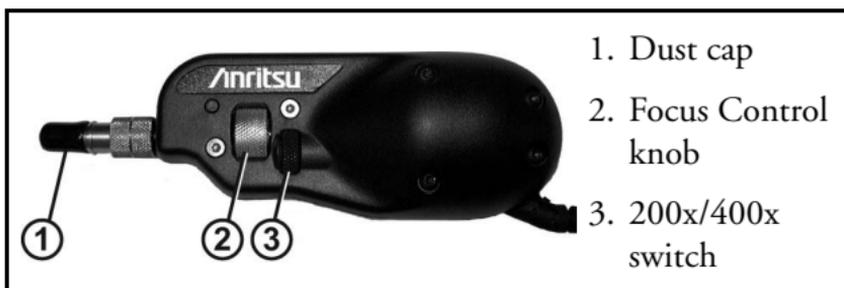
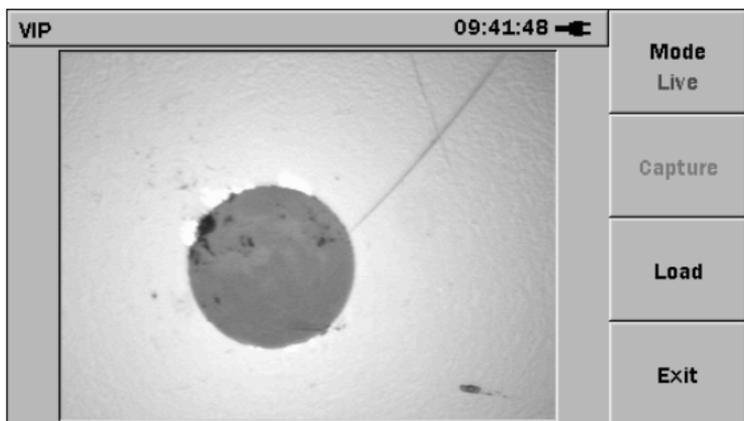

Figure 5-2: Video Inspection Probe
Figure 5-8: VIP Screen – Live Mode
1. Remove the dust cap (see item 1 in Figure 5-2 on page 5-2).
Do not disconnect the VIP from the Network Master until the unit displays the VIP screen (see Figure 5-8 on page 5-8). Doing so could result in locking up the USB.
3. If the Network Master was already powered up before connecting the USB from the VIP, the VIP application is automatically launched in Live Mode (as shown in Figure 5-8). Continue at step 8.
8. Use the **200x/400x switch** (see item 3 in Figure 5-2 on page 5-2) to set the desired magnification rate. The example shown in Figure 5-8 on page 5-8 has the magnification rate set to 400x.
9. Use the **Focus Control knob** (see item 2 in Figure 5-2 on page 5-2) to adjust the focus of the image, if the image is not in clear focus.